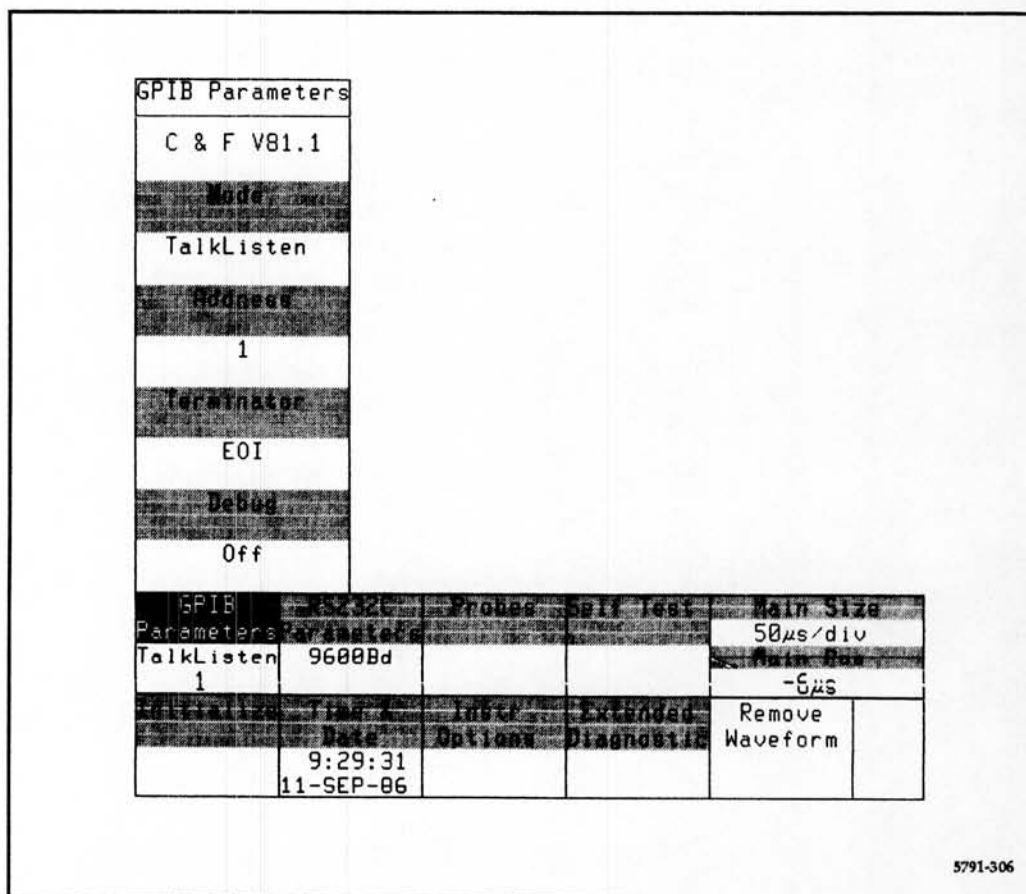

Figure 3-7. Typical GPIB settings.
3. The GPIB communication interface must have the parameter labels **Mode**, **Address**, and **Terminator** selected. Their specific settings are determined by hardware and/or software constraints (see Fig. 3-7).
While the **Debug** setting is "Off" in Figure 3-7, you may choose to set **Debug "On."** This allows front panel viewing of the GPIB interface input operations via the 11401/11402 screen for program development troubleshooting.